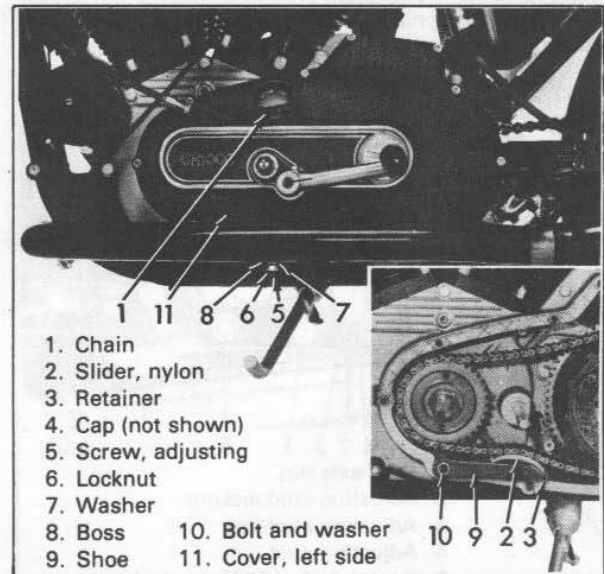

Figure 2-2. Front Chain Adjuster (1977 and Later)
### ADJUSTMENT (1977 AND LATER) (Figure 2-2)
The front chain can be adjusted without removing the chain cover. Adjustment is made by loosening locknut (6), Figure 2-2, and turning the slotted adjusting screw (5) IN for tightening or OUT for loosening.
### REPLACING ADJUSTER ASSEMBLY (Figure 2-2)
To replace chain adjuster (2) remove drain plug and drain oil from chain case. Remove gear shifter pedal, footrest, chain case cover and gasket. Chain adjuster (2) must be replaced as an assembly when slider material is excessively worn or damaged. To replace, relax chain tension by unscrewing chain adjuster screw (5, Figure 2-2), and remove adjuster. Remove spring from old adjuster and assemble to new adjuster.